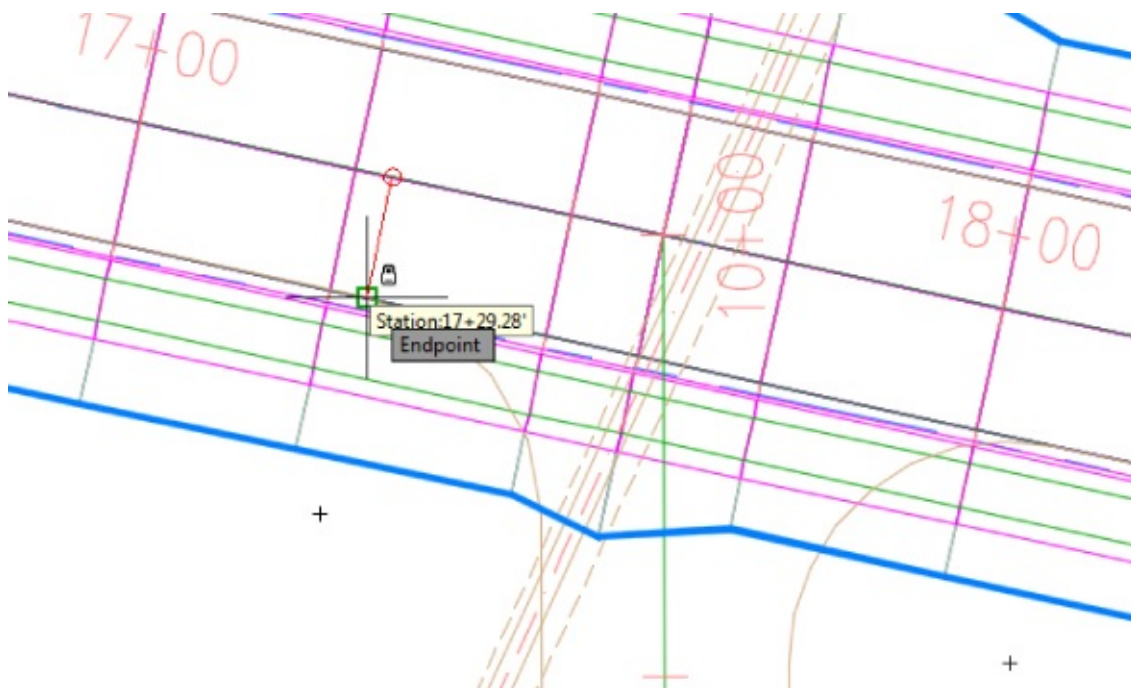

Figure 10.2 Using Osnaps to help define regions
4. In the drawing, with your cursor anchored to ROAD C, stretch the station picker south and Osnap to the end point of the left arc where it intersects ROAD C's edge of pavement, as shown in Figure 10.2.